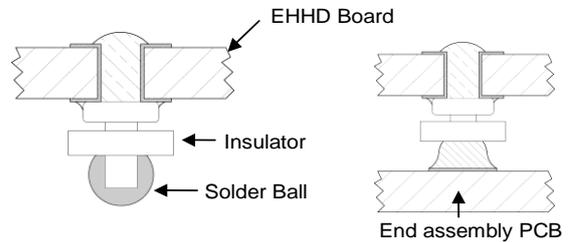

Figure 22. Column Pin Connector Before and After Reflow Soldering.
The surface mountable modules in the ESTW006A0Bxx-S family use our newest SMT technology called “Column Pin” (CP) connectors. Figure 22 shows the new CP connector before and after reflow soldering onto the end-board assembly. The CP is constructed from a solid copper pin with